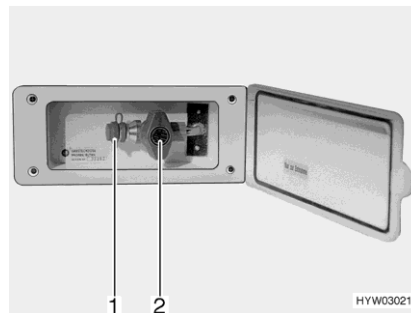

Fig. 133 External gas connection
- Connect the external gas device to the connection point (Fig. 133,1).
- Open the gas isolator tap (Fig. 133,2).